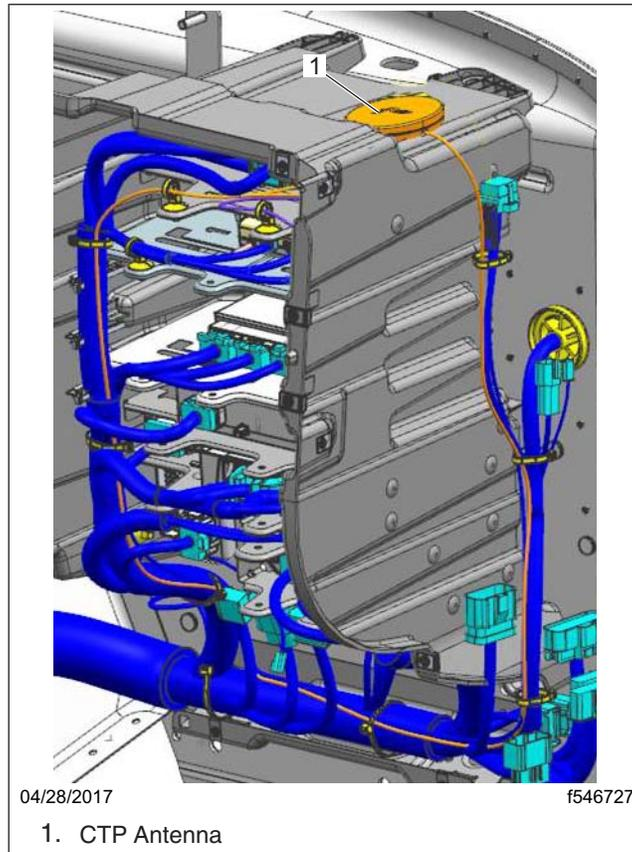

Fig. 4, Electronics Bay
- 16.3 Remove any tie straps that secure the antenna wire to the electronics bay harnesses. See Fig. 4.
4. Remove any tie straps that secure the antenna wire to the electronics bay harnesses. See Fig. 4.